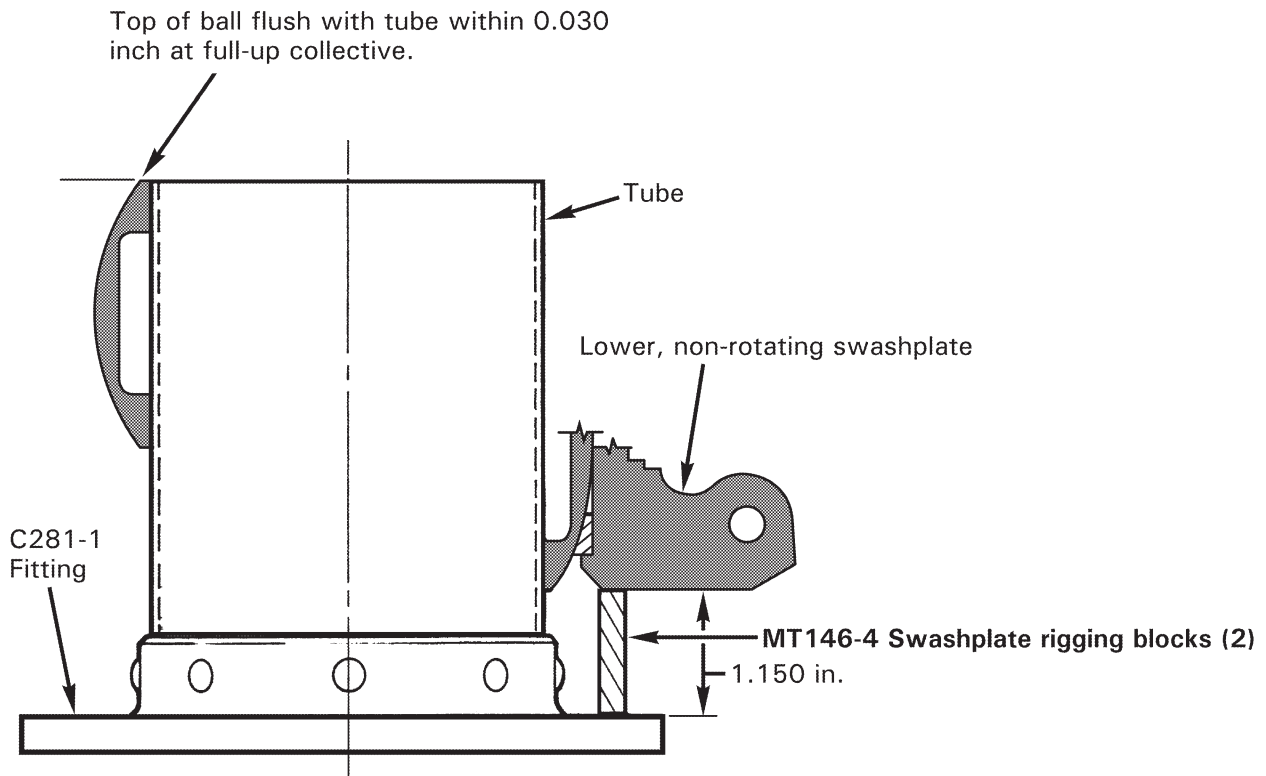

FIGURE 18-8 SWASHPLATE AND COLLECTIVE CONTROL RIGGING
4. Refer to Figure 18-8. Position MT146-4 swashplate rigging blocks between lower, non-rotating swashplate and C281-1 fitting. Refer to Section 5-33, and adjust push-pull tube rod ends until aligned with swashplate attachment holes.
1. Refer to Figure 18-8. Position collective stick full up and apply friction. Place MT759-1 rigging blocks around cyclic stick in cyclic box assembly. Verify top of ball is flush with tube within 0.030 inch. Adjust all swashplate push-pull tubes exactly the same amount as required (one full turn = 0.48°).
After making adjustments, position collective stick full up and apply friction. Verify top of swashplate ball is flush with tube within 0.030 inch per Figure 18-8. Adjust all swashplate push-pull tubes exactly the same amount as required (one full turn = 0.48°). Lengthening all push-pull tubes increases blade angles.